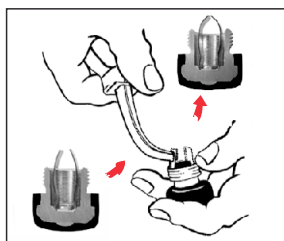

Fig. 2
2. To increase the spring pressure bend both parts of the spring so their ends are more curved (see Fig. 2).